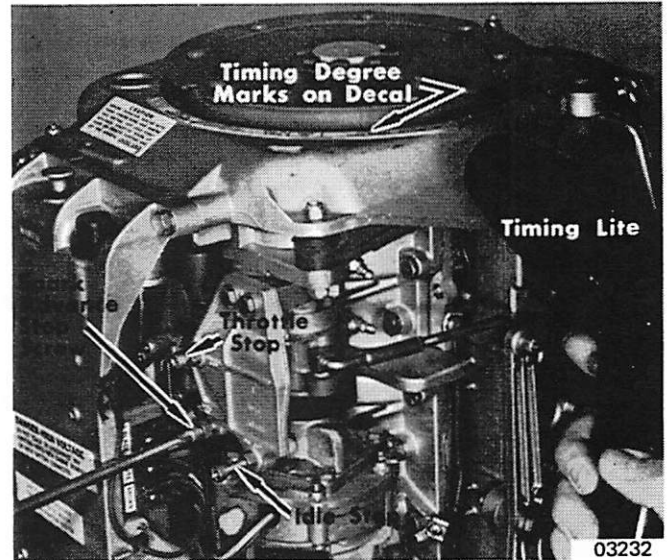

Figure 12. Spark Advance Adjustment (Merc 1000SS)
1. Turn ignition key on, crank engine and hold timing lite in line with degree marking on top cowl support frame. Advance the vertical lever until timing mark (dots) on the flywheel are aligned with timing mark ( $36\frac{1}{2}^{\circ}$  BTDC) on timing decal. (Figure 12)
2. Adjust spark advance stop screw (Figure 12) in or out until correct timing is obtained.
2. Adjust "throttle stop" screw on stop bracket (Figure 12) to allow full throttle shutter opening but not to allow throttle shutters to act as a stop or the carburetor cluster to hit carburetor filter bowl.